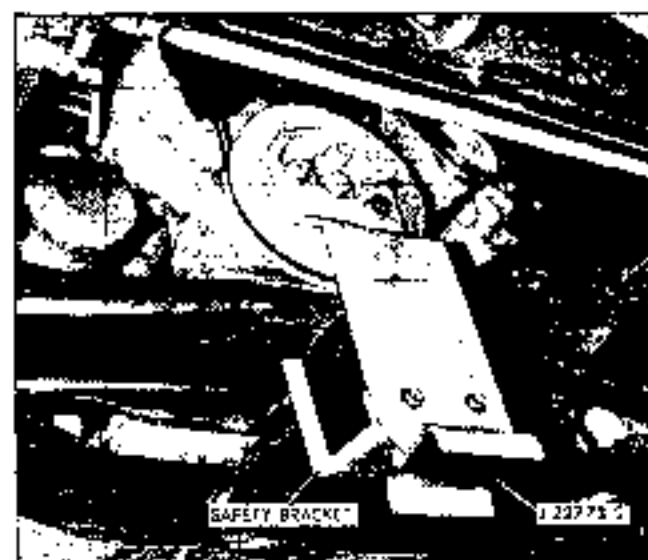

Fig. 6-10 123773 Installed
2. Bolt # 22773 (Firebird) or # 22945 (Tempest) Engine Support Bracket to front of harmonic balancer (Fig. 6-10).
CAUTION: Safety brackets must be bolted to Firebird engine lifting tool whenever in use to prevent engine from moving while in the raised position (Fig. 6-10).